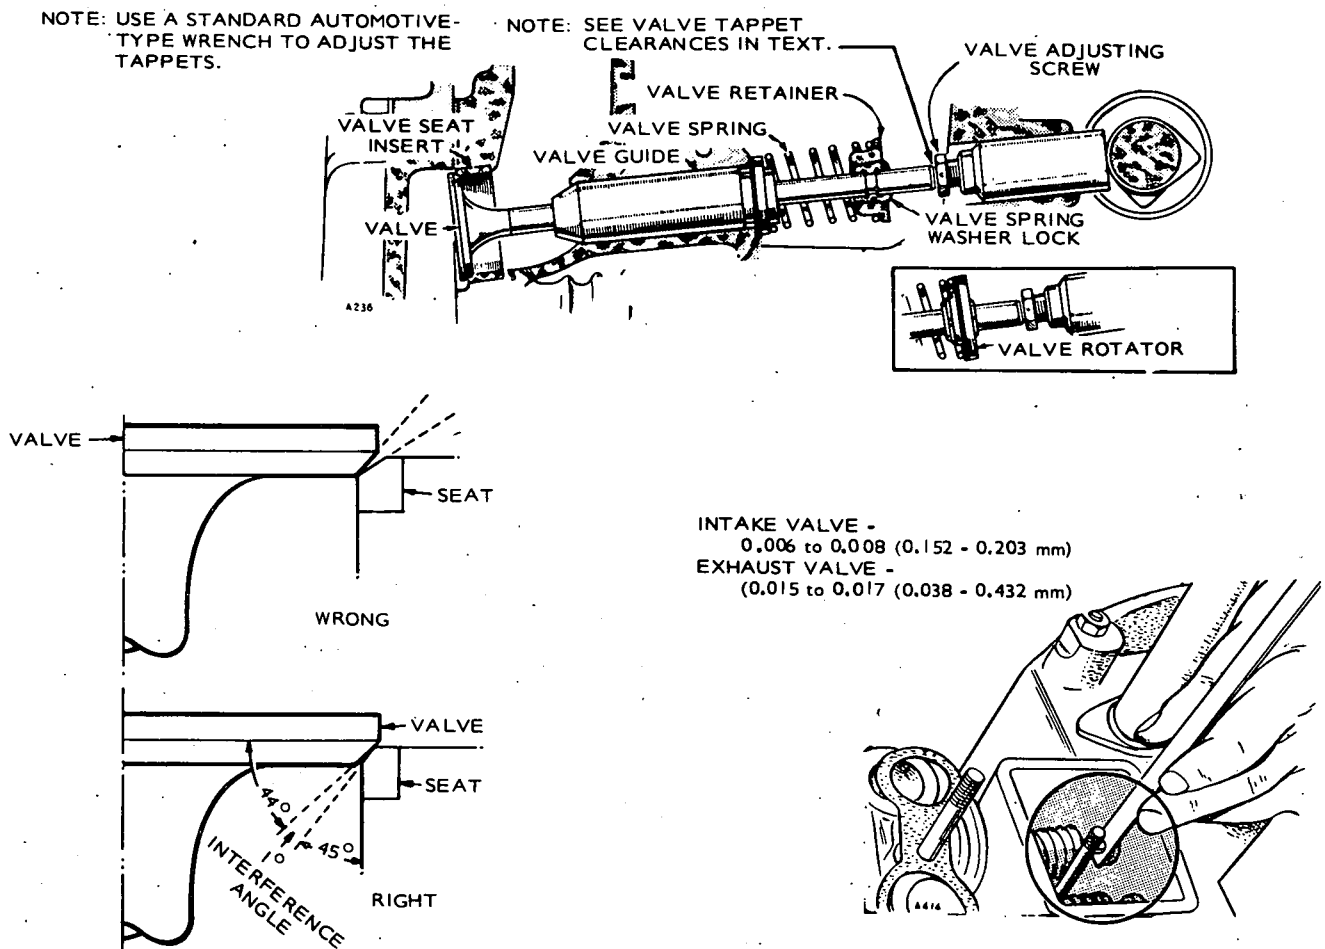

FIGURE 17. VALVE SYSTEM AND ADJUSTMENTS
The valve *face* angle is 44 degrees. The valve *seat* angle is 45 degrees. This 1-degree interference angle results in a sharp seating surface between the valve and the top of the valve seat. The interference angle method of grinding valves minimizes face deposits and lengthens valve life. See Figure 17.
3. Continue about 1/4 turn until mark on flywheel and TC mark on gear cover are in line. This should place the left-hand piston at the top of its compression stroke, the position it must be in to get proper valve adjustment for the left-hand cylinder. Clearances are listed in the table of **DIMENSIONS AND CLEARANCES**. For each valve, the thinner gauge (minimum) should pass freely between the valve stem and valve tappet but the thicker gauge (maximum) should not. Refer to Figure 17.